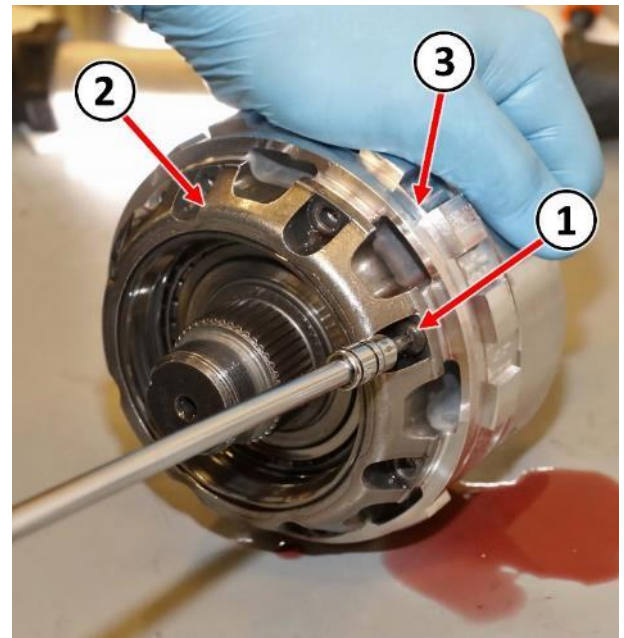

Figure 39 – Bearing Retainer
54. Remove the remaining screws (1) securing the bearing retainer (2) to the compounder low clutch (3) (Figure 39).
55. Remove the bearing retainer (2) from the compounder low clutch (3) (Figure 39).
60. Install the bearing retainer (2) to the lower clutch (3) (Figure 39).
61. Install four compounder bearing retainer screws leaving four screws out for installation of Puller Adapter 9908 (Figure 39).